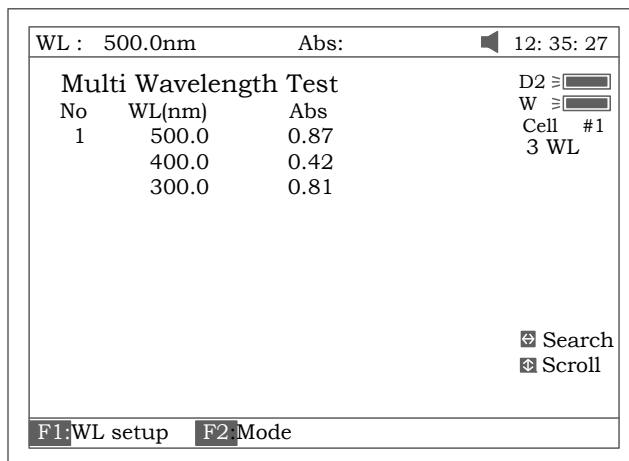

Fig 71
4. Pull the sample cuvette into main light path, press **[START]** to test. The test results will be displayed on the screen (Fig 71).